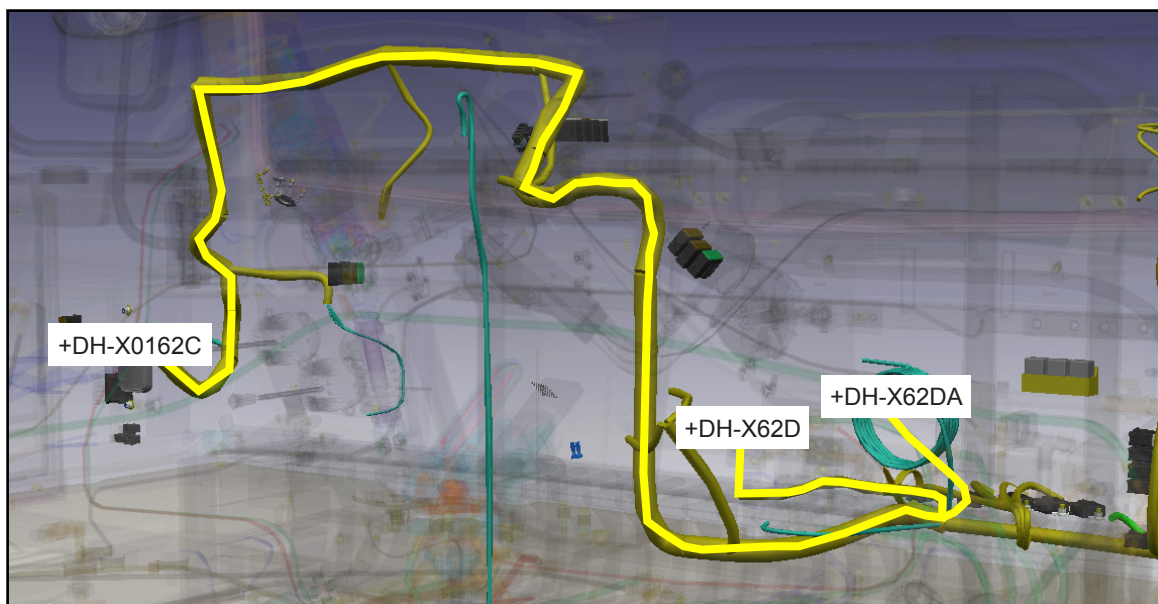

Figure 3 - Typical View of WHA 62 Routing
- 1.6. Install the cables CAB062VL and CAB062VM (see Figure 3).
- 1.8. Connect the CAB062VL connector at +DH-X62DA position and the CAB062VM connector at +DH-X62D position (see Figure 3).